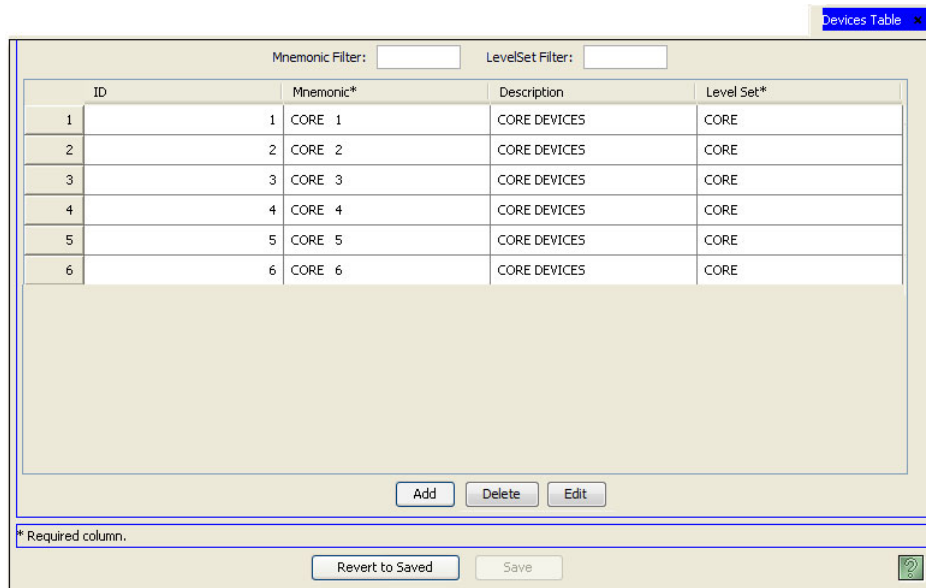

Figure 9-10. Devices Table
- 1 From the Navigation area, select the 'Views' pane and then 'Devices'. The 'Devices' table appears, as shown in Figure 9-10.